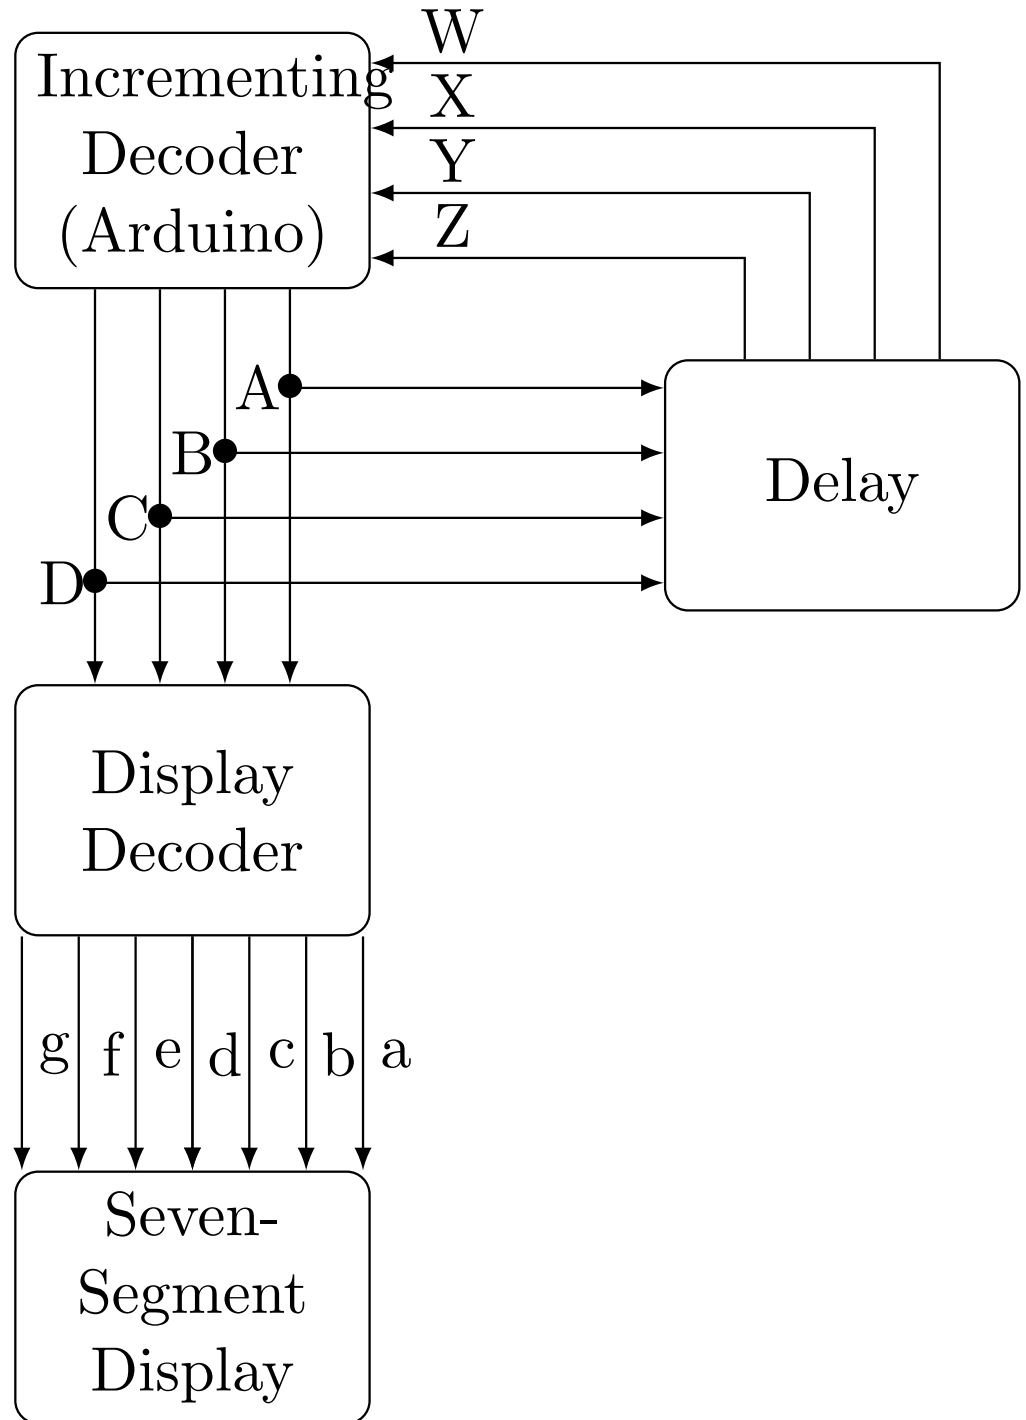
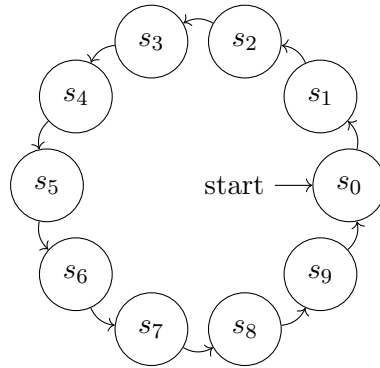
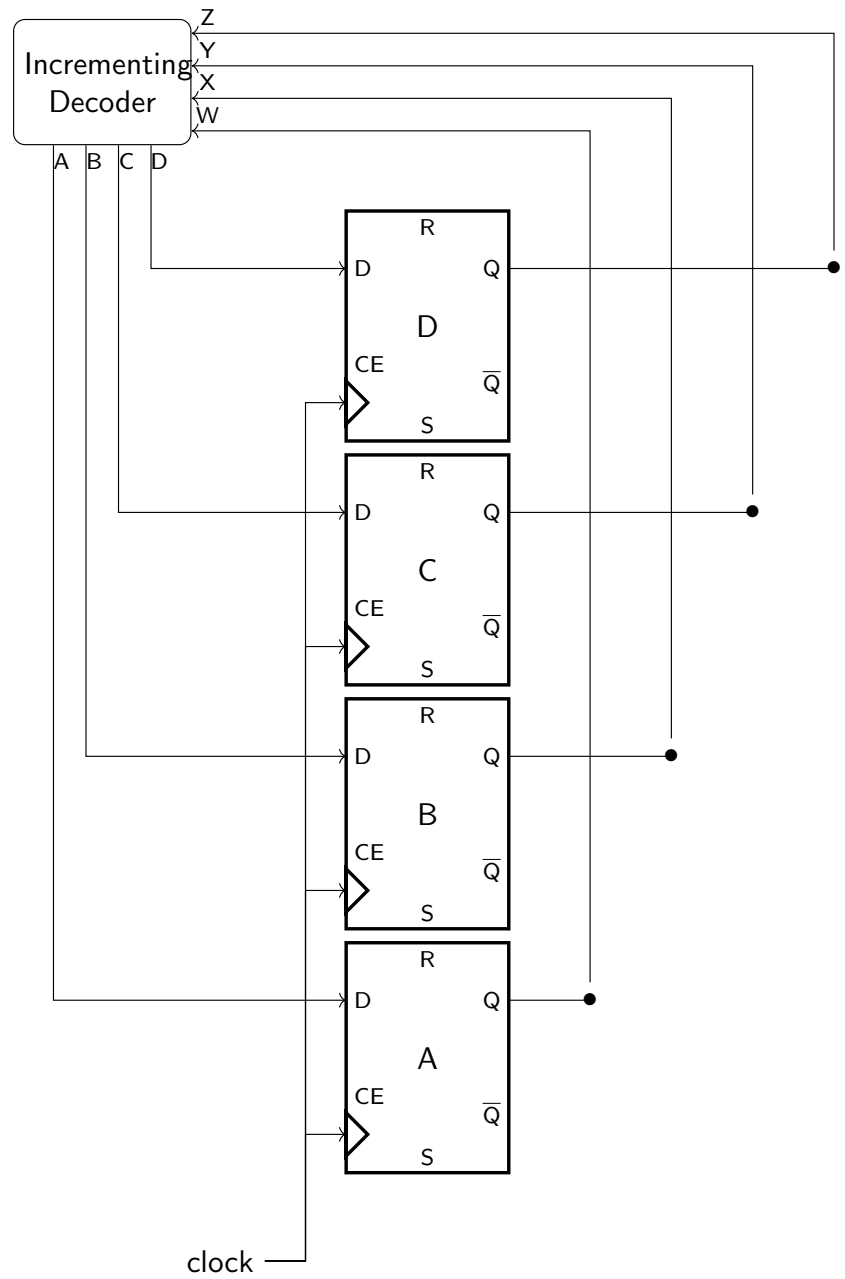

Figure 5.2:
Figure 6.1: FSM for the decade counter
Figure 6.2: Decade counter FSM implementation using D-Flip Flops
2. Connect the Arduino, 7447 and the two 7474 ICs according to Table 5.2 and Fig. 5.2.
3. Realize the decade counter in Fig. 5.2.
The block diagram of a decade counter (repeatedly counts up from 0 to 9) is available in Fig 5.2 The incrementing decoder and display decoder are part of combinational logic, while the delay is part of sequential logic
1. Fig 6.1 shows a finite state machine (FSM) diagram for the decade counter in Fig 5.2  $s_0$  is the state when the input to the incrementing decoder is 0 The state transition table for the FSM is Table 4.1, where the present state is denoted by the variables  $W, X, Y, Z$  and the next state by  $A, B, C, D$ .
2. The FSM implementation is available in Fig 6.2 The flip-flops hold the input for the time that is given by the clock This is nothing but the implementation of the Delay block in Fig 5.2
For the FSM in Fig 6.1, the number of states is 10, hence the number flipflops required